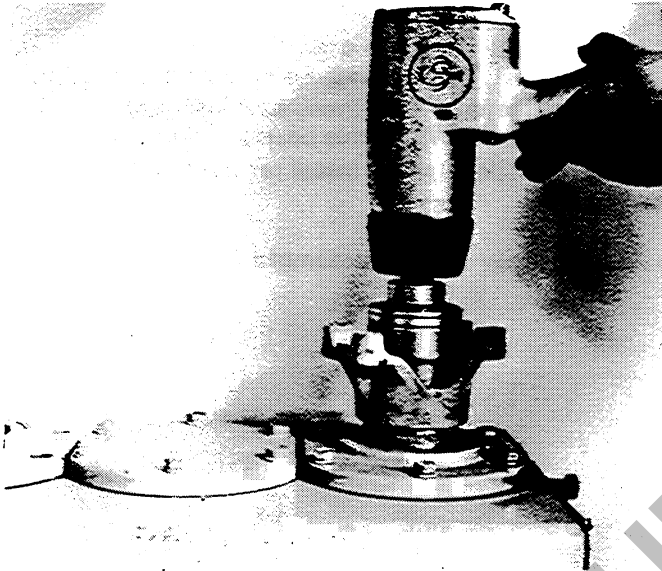

FIGURE 1:
1. (Figure 1) Remove drive yokes from shafts.